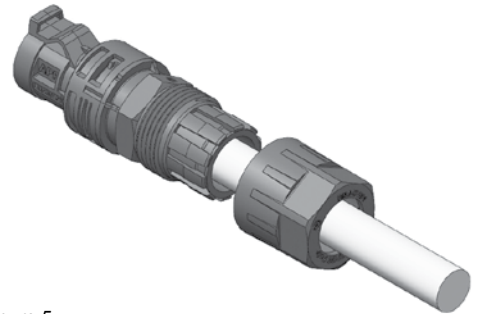

Figure 5
- a. Insert the sealing grommet assembly in the back of the connector and twist to lock. (See figure 5)